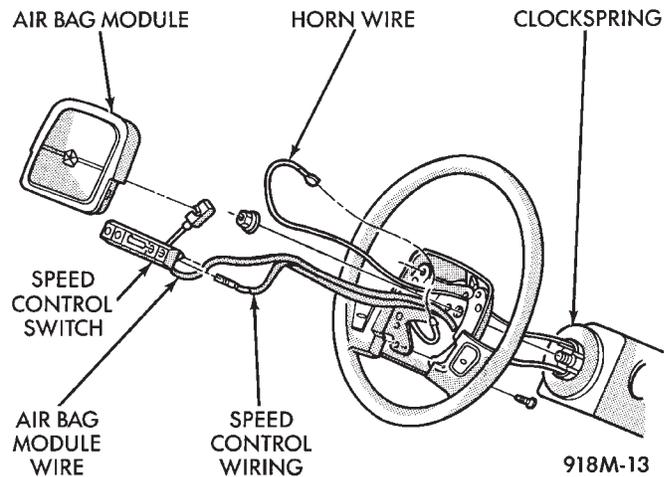

Fig. 11 Steering Wheel Wiring
- (1) If the clockspring is not properly positioned or if front wheels were moved, follow the clockspring centering procedure before installing steering wheel. With the front wheels in the straight ahead position. Position the steering wheel on the steering column. Making sure to fit the flats on the hub of the steering wheel with the formations on the inside of the clockspring. Pull the air bag and speed control wires through the lower, larger hole in the steering wheel and the horn wire through smaller hole at the top. Make sure not to pinch wires (Fig. 11).
- (2) Install retaining nut, and torque it to 61 N·m (45 ft. lbs.).
- (3) Connect horn wiring lead.
- (4) Connect 4-way connector to speed control switch and attach switch to steering wheel.
- (5) Connect air bag lead wire to air bag module, and secure module to steering wheel.
- (6) Do not connect negative battery cable. Refer to Air Bag System Check for proper procedure.